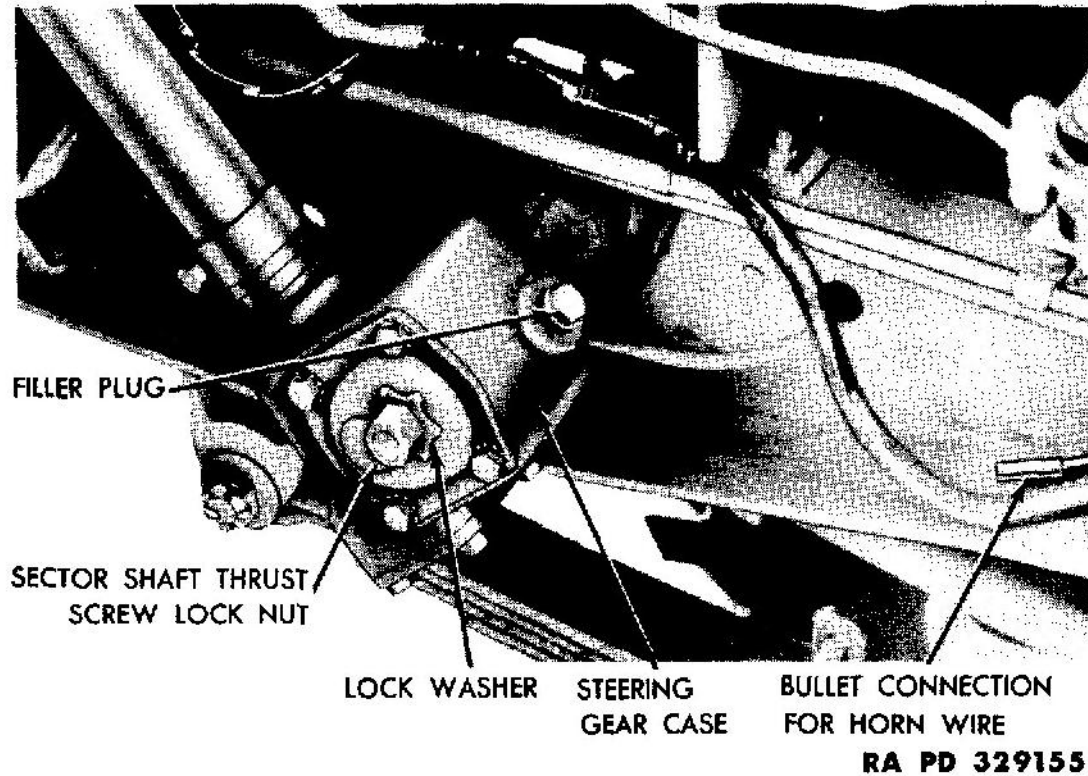

Figure 65 – Steering Gear Case
122. SECTOR SHAFT END PLAY ADJUSTMENT (fig. 65).
a. Disconnect the horn wire at the bullet connection (fig. 65). Remove the horn button by pressing down and turning it counter-clockwise. Remove the horn button spring and horn wire assembly from the steering tube. Remove the steering wheel nut and remove the steering wheel with a suitable puller. To install the steering wheel, place it in position over the key in the steering shaft and install the steering wheel nut. Install the horn wire assembly in the steering
tube. Place the horn button spring and the horn button in the steering wheel, press the button down and turn it clockwise to secure it to the steering wheel. Connect the lower end of the horn wire at the bullet connection (fig. 65).